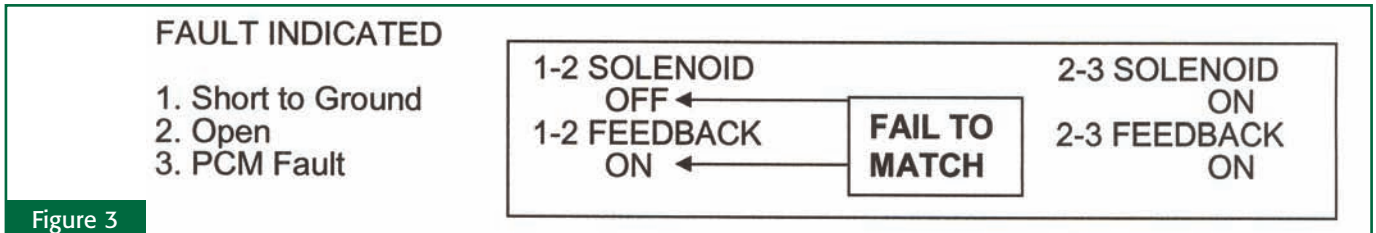

Figure 3
1. Feedback always indicates ON: The feedback voltage remains low, even when the computer is commanding the solenoids off. This condition indicates one of three possible failures (Figure 3):